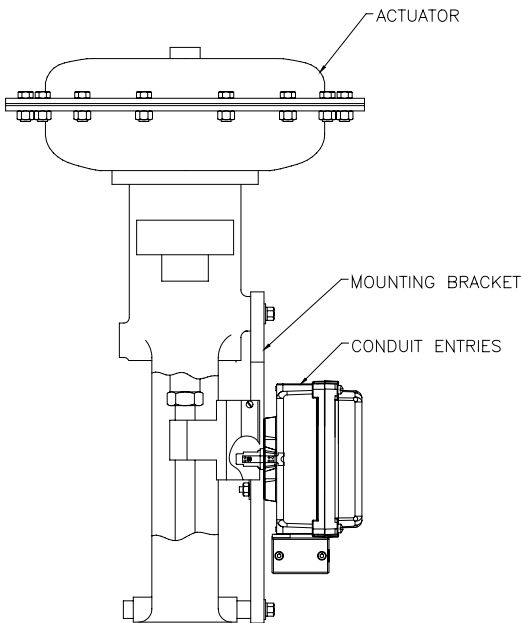

Figure 1
- 3.1.4 Lastly, mount the D-EPIC to the bracket so that the conduit entry faces away from the diaphragm or cylinder (See Figure 1)